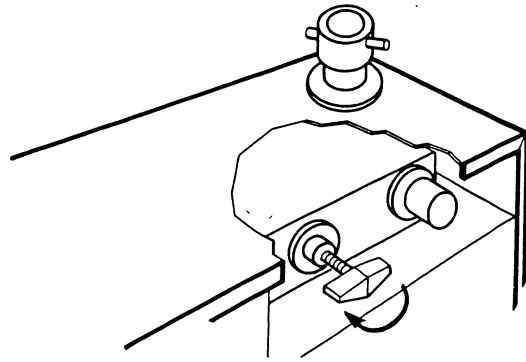

Fig. 4-16. Opening Service Valve
24. Turn service valve clockwise $2\frac{1}{2}$ turns (Fig. 4-16). This is SERVICE PUMP position (Fig. 4-11B). When test port pressure reaches 20 milliTorr, turn service valve all the way in. Then back off $\frac{1}{8}$ turn.